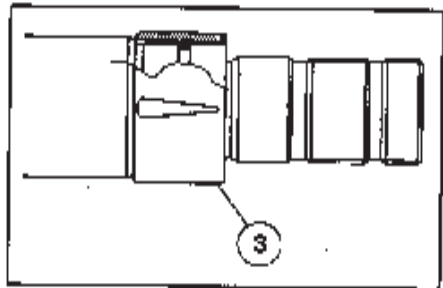

Fig. 21
- 3 Put the cushion ring on (Fig. 21). Please note the direction! Turn the arrow point towards the piston.